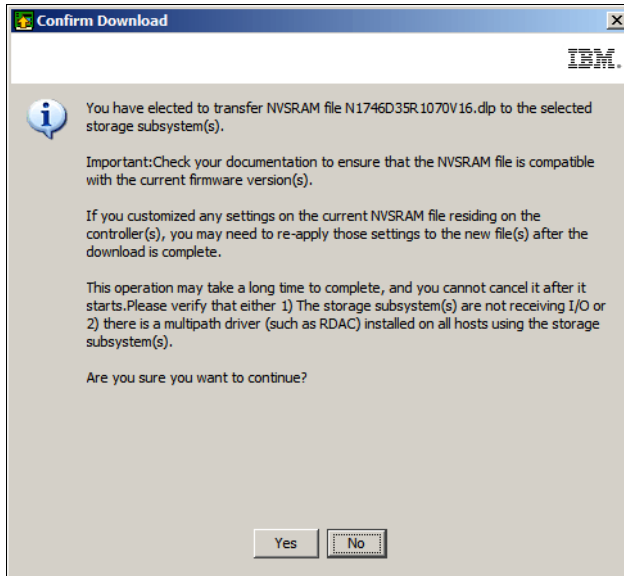

Figure 14-58 Confirm Download
- c. Click the **OK** button to continue and the **Confirm Download** window shown in Figure 14-58 on page 368 will appear.